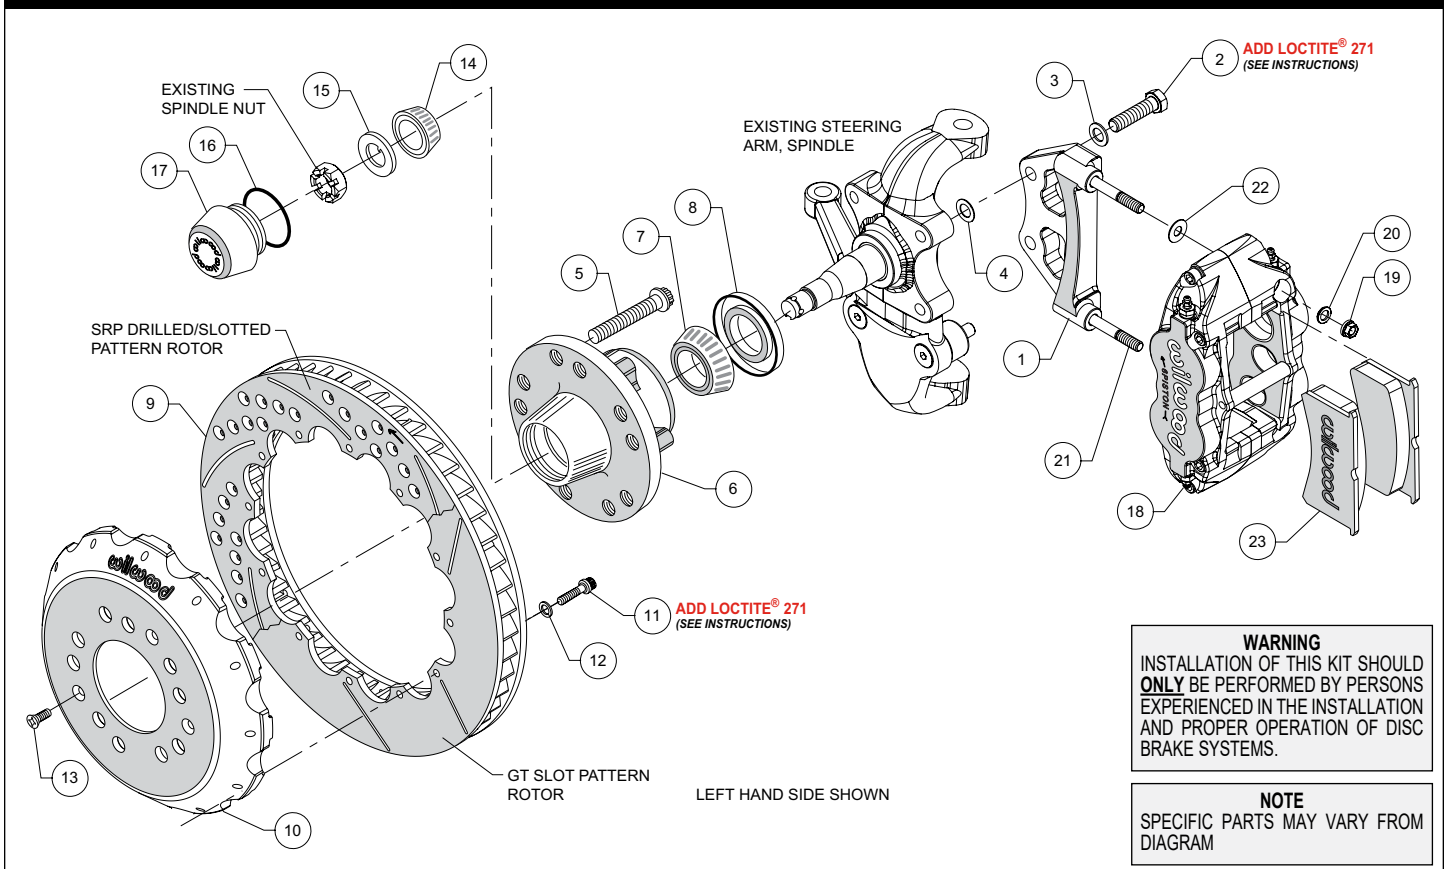
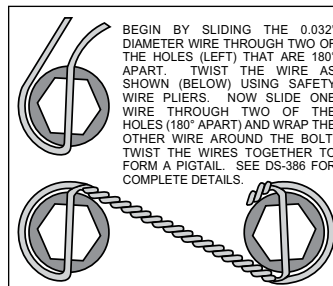

Figure 1. Typical Installation Configuration
Figure 3. Safety Wire Diagram
**NOTE:** Numbers in parenthesis refer to the parts list, and Figure 1 on the preceding pages.
- The caliper mount bracket (1) should initially be installed with clean, dry threads on the mounting bolts. Orient the bracket as shown in Figure 1, and install using bolts (2) and washers (3). Initially place one .032" thick shim (4) on each bolt between the bracket and upright, Figure 1 and Photo 1. Temporarily tighten the mounting bolts. **NOTE:** The bracket must fit squarely against the mount bosses on the upright. Inspect for interference from casting irregularities, machining ridges, burrs, etc. Later, after the caliper alignment has been checked, the mount bolts will be secured using red *Loctite*® 271.
- Pack the large inner bearing cone (7) with high temperature disc brake bearing grease (available from your local auto parts store) and install into the backside of the hub (6), Photo 3.
- Install the grease seal (8) by pressing into the backside of the hub (6), flush with the end of the hub, Photo 3.
- Orient the rotor (9) and the hat (10) as shown in Figure 1 and Photo 4. Attach rotor to hat using bolts (11) and washers (12). Apply red *Loctite*® 271 to the bolt threads and torque to 155 in-lb using a criss-cross pattern. For an added measure of security, the bolts may be safety wired using standard 0.032 inch diameter stainless steel safety wire as shown in Figure 3. Refer to Wilwood's data sheet DS-386 (available at [www.wilwood.com/Pdf/DataSheets/ds386.pdf](http://www.wilwood.com/Pdf/DataSheets/ds386.pdf)) for complete safety wire installation instructions.
- NOTE:** This kit contains distinct right and left hand calipers that must be mounted in a specific direction, as described below. Initially place one .035" thick shim (22) on each stud (21) between the caliper and the bracket, as shown in Figure 1 and Photo 7. Mount the caliper (18) onto the bracket (1) using lock nuts (19) and washers (20), Figure 1. Ensure that the caliper is mounted so the largest pistons are at the rotor exit end of the caliper, in relation to the direction of rotor rotation. Temporarily tighten the lock nuts and view the rotor through the top opening of the caliper. The rotor should be centered in the caliper, Photo 8. If not, adjust by adding or subtracting shims (4) between the bracket and the upright. Always use the same amount of shims on each of the two mounting bolts. Once the caliper alignment is correct, remove the bracket mounting bolts (2) one at a time, apply red Loctite® 271 to the threads, and torque to 90 ft-lb.